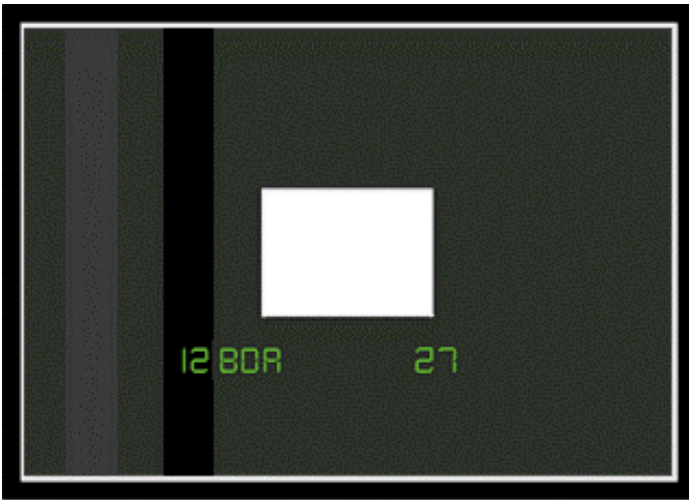

Fig. 8 - Select the VP300 Window 2 pattern and adjust the pattern to 90 IRE.
9. Select the VP300 Window2 pattern, and adjust the pattern to 90 IRE. The display should now appear as in Figure 8.